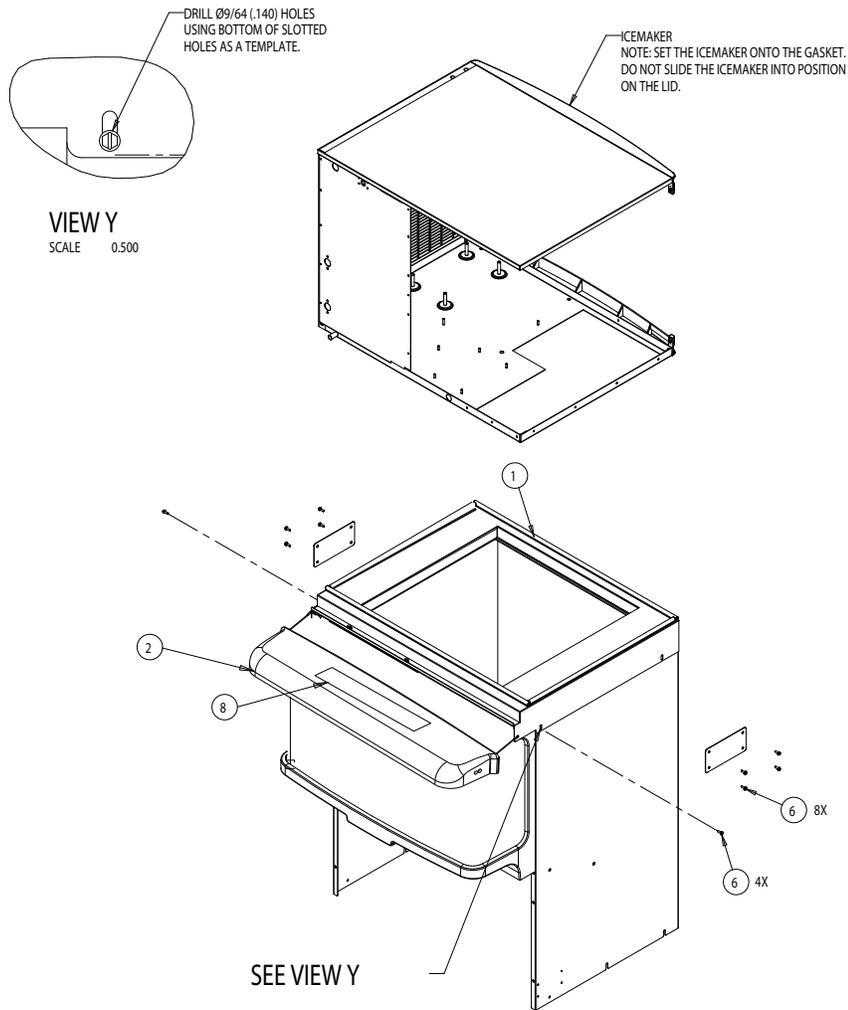

FIGURE 2
4. Set the lid assembly onto the dispenser. Using the slotted holes on the side of the lid as a template, drill four (4) 9/64" diameter holes at the bottom of the slots (Figure 2).